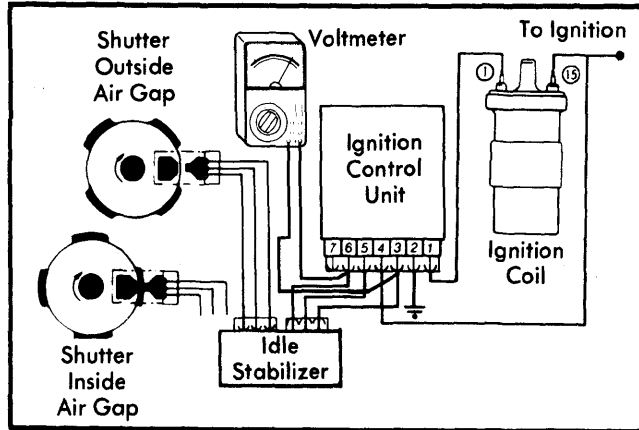

Fig. 8 Voltmeter Hookups for Hall Sending Unit Check
1) Reconnect the control unit harness connector to control unit. See Fig. 8. Pull back rubber boot on connector. Attach voltmeter positive lead to connector terminal 6 and negative lead to terminal 3. Make sure connector is attached securely to control unit.
3) Now turn distributor until trigger wheel shutter is inside Hall sending unit air gap. See inset in Fig. 8. Voltmeter reading should increase to 9 volts.